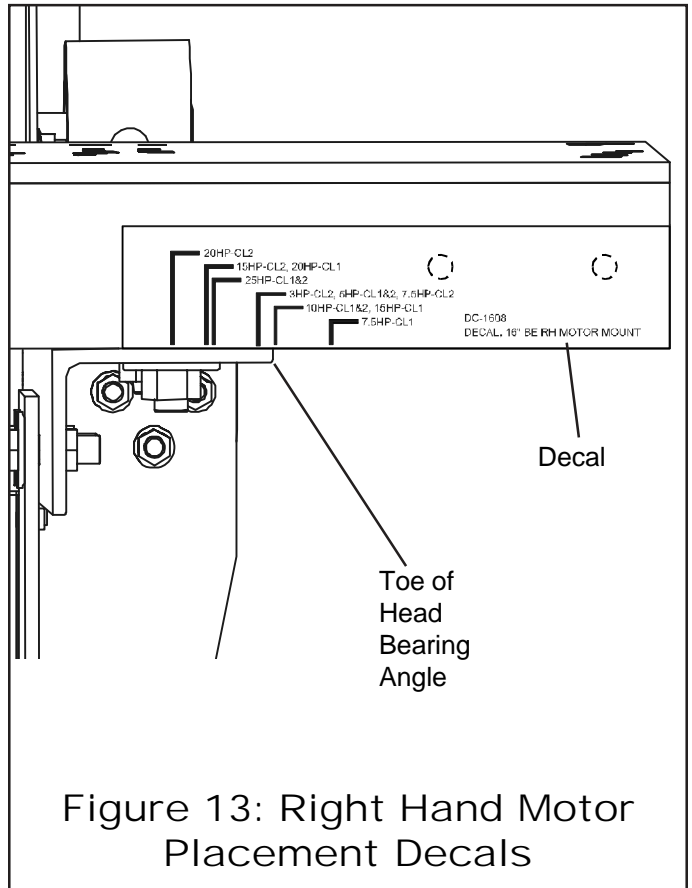

Figure 13: Right Hand Motor Placement Decals
- 4.) Slide the motor mount in or out while keeping the correct decal mark lined up with the outside toe of the head bearing angle. (See Fig. 13) This will align the holes in the head bearing angles to the proper holes in the motor mount assembly.